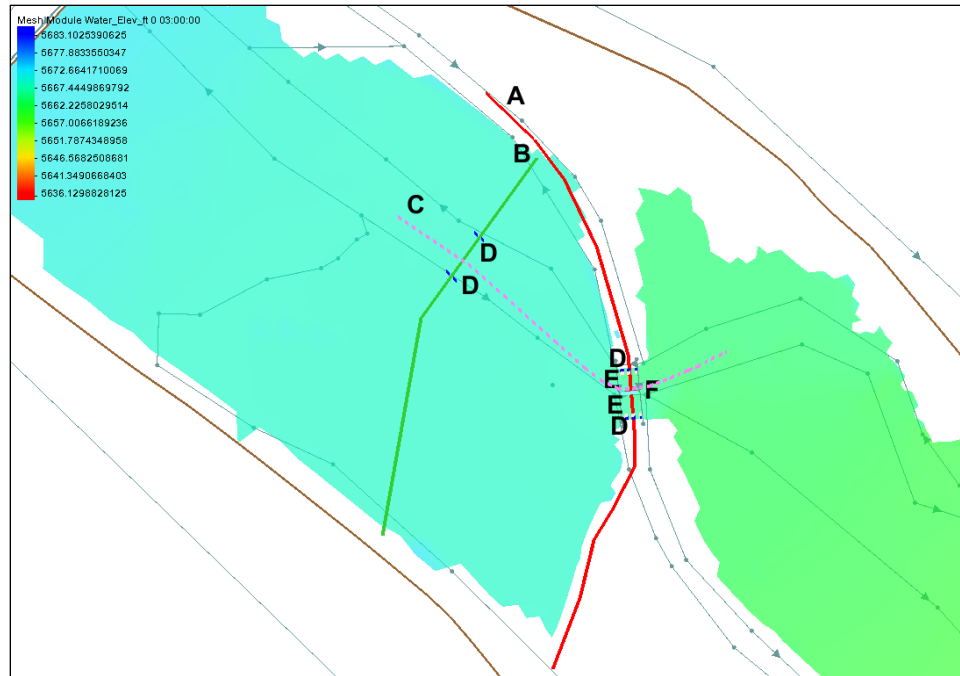

Figure 2 Bridge scour arcs labeled
In order to facilitate quick completion of this tutorial, the Annotations module has been used to create a number of different arcs that can be used as templates for the bridge scour arcs. Simply follow along them when creating each arc in order to create the arcs in the correct locations (Figure 2).
There are six types of bridge scour arcs shown in Figure 2:
3. **Zoom**  in to the area near the bridge, as shown in Figure 2.
4. Starting on the left side of the river (at the end with the “A” at the top of the screen in Figure 2) and using the Annotations arc as a template, use the **Create Feature Arc**  tool to create the contracted section arc as shown in Figure 2. Double-click to end the arc.
1. Using the **Create Feature Arc**  tool, create the approach arc (labelled "B" in Figure 2) from left to right as if looking downstream. Use the Annotations arc as a guide.
1. Using the **Create Feature Arc** tool, create the centerline arc (labelled "C" in Figure 2) from left to right (upstream to downstream). Use the Annotations arc as a guide.
1. Using the **Create Feature Arc** tool, create the first bank arc (lower arc labelled "D" crossing the approach arc in Figure 2). Use the Annotations arc as a guide. The arc direction is not important.
2. Repeat step 1 for each of the other three bank arcs (labelled "D" in Figure 2). Use the Annotations arc as a guide.
2. Using the **Create Feature Arc**  tool, create the top abutment toe arc (upper arc labelled "E" in Figure 2). Use the Annotations arc as a guide. The arc direction is not important.
1. Using the **Create Feature Arc** tool, create the pier arc ("F" in Figure 2). Use the Annotations arc as a guide. The arc direction is not important.